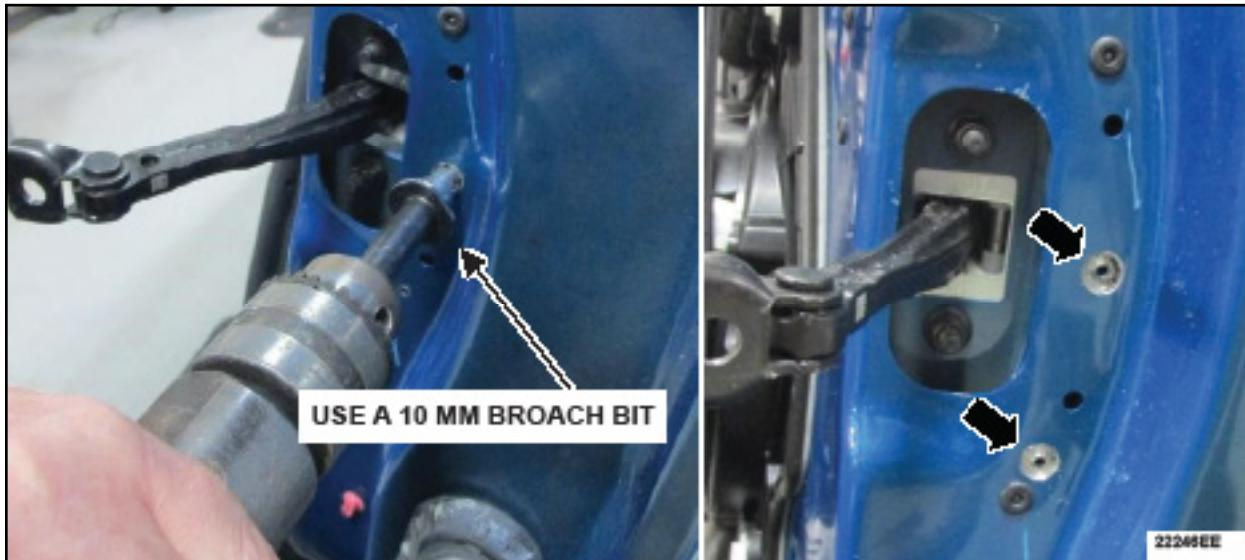

FIGURE 17
14. For any of the original spot welds that have cracked or separated, use a 10 mm (25/64 in.) broach drill bit and broach each weld as shown in Figure 17. Then, apply Motorcraft® PM-13-A (anti-corrosion coating) to each weld that was broached.